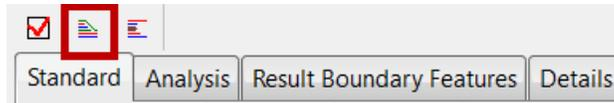

Figure 7–21
- In the Core toolbar, click  (3D Cross Section) as shown in Figure 7–21.